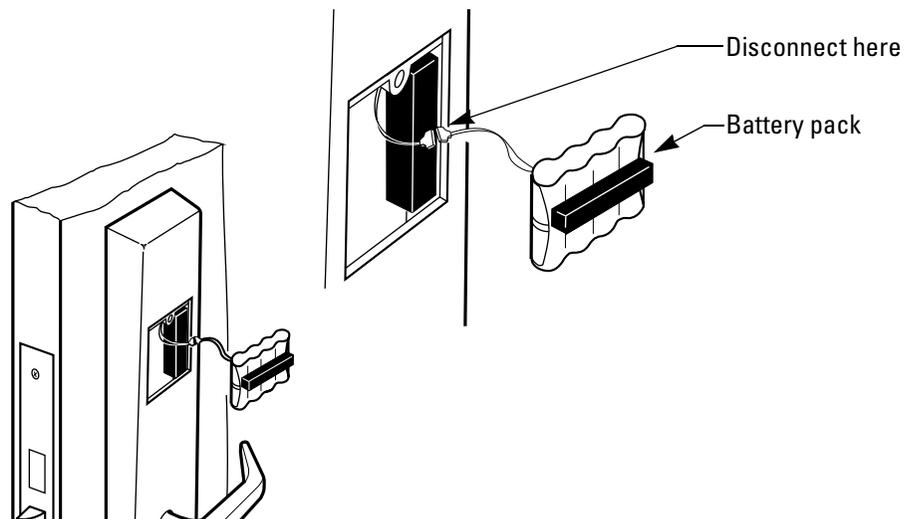

Figure 2.17 Disconnecting the old battery pack
3. Disconnect the old battery pack, as shown in Figure 2.17, and connect the new battery pack.